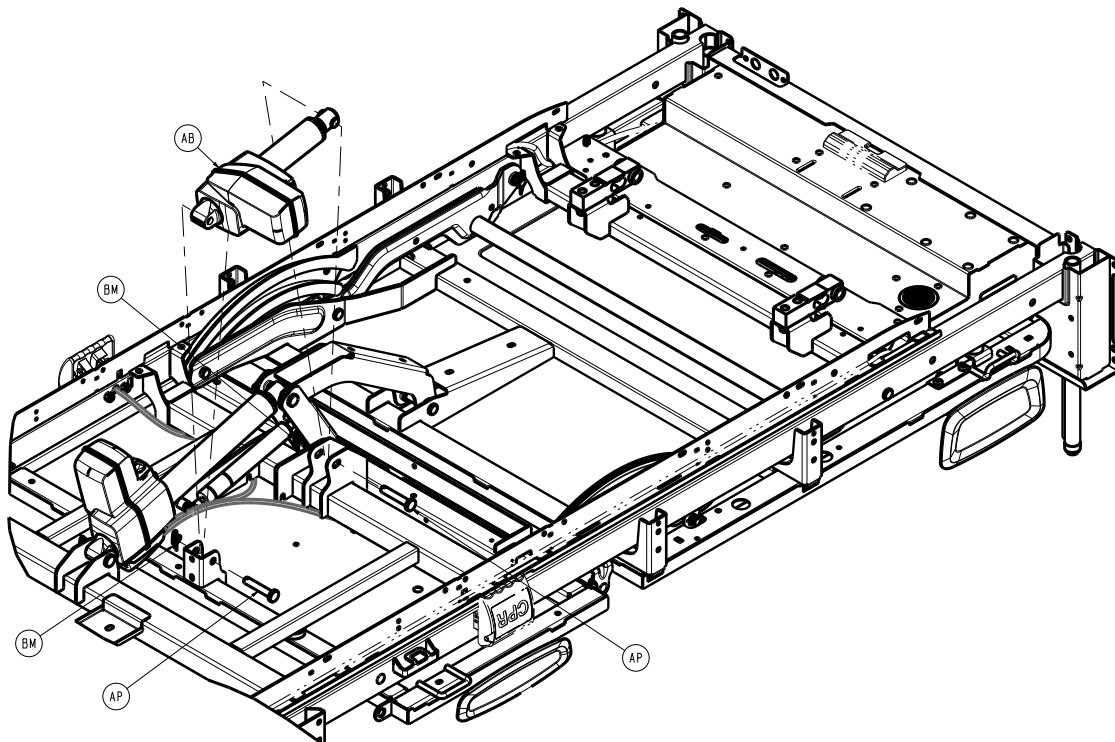

Figure 26 – Replacing the Gatch actuator
6. Using needle nose pliers, remove the two ruer clips (BM) from the two clevis pins that secure the Gatch actuator (AB) to the litter and the Gatch frame (Figure 26). Save the ruer clips.
7. Support the actuator. Remove and save the two clevis pins (AP) (Figure 26).